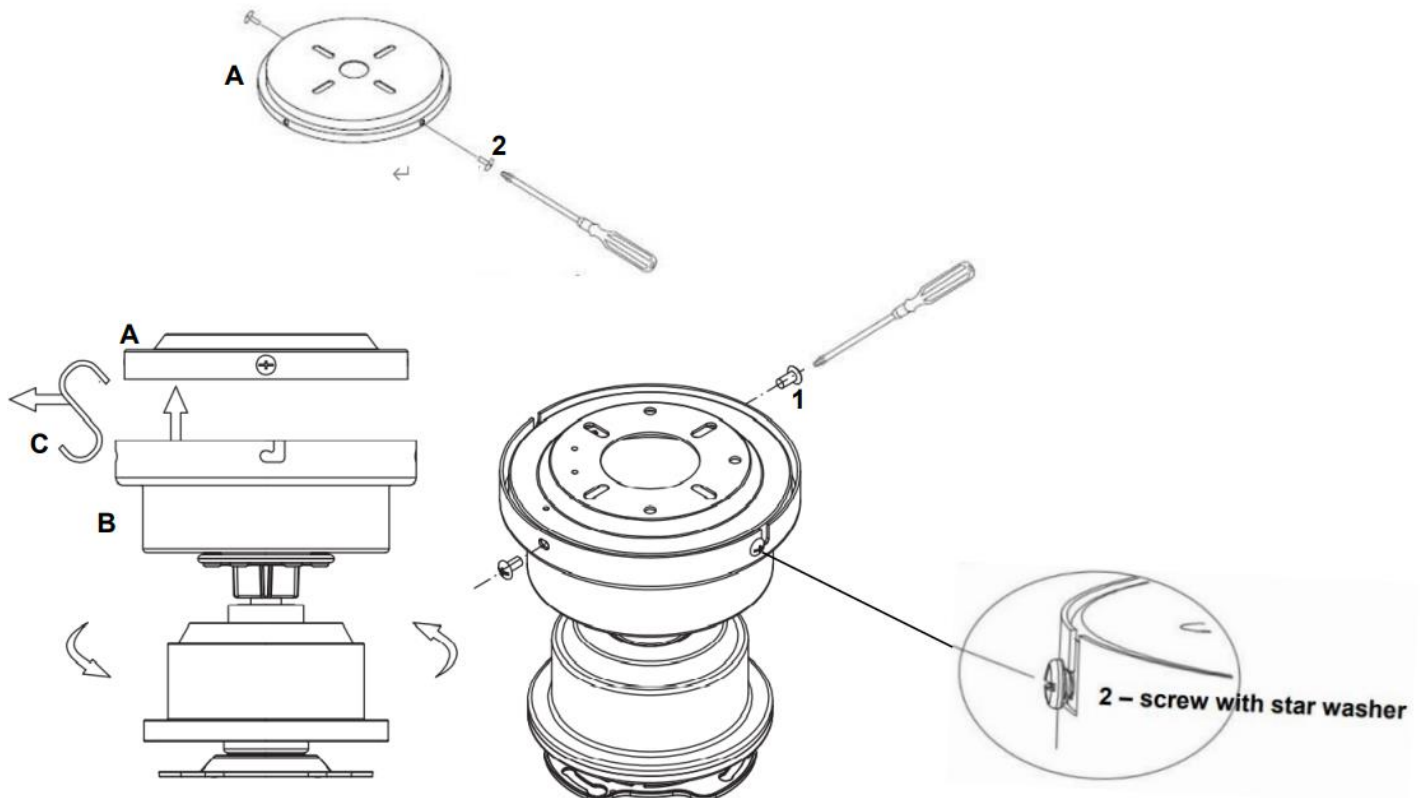

Fig. 6
Install the fan assembly to the mounting bracket (Fig.6):
- Loosen two canopy screws with star washers (2) by half a thread from the mounting bracket. (For L-shape slot on the canopy to be mounted).
- Remove the S-hook (C) from the mounting bracket and fan assembly
- Lift the hanging plate of the fan assembly (B) up to the mounting bracket and let the L-shape slot on the hanging plate go through the two canopy screws with star washers (2). (Fig.6)
- Turn the hanging plate of the fan assembly until it locks in place at the end section of the L-shape slot, ensuring the star washers are between the hanging plate and screw head. Secure it by tightening the two canopy screws with star washers (2).
- Secure and tighten the canopy screws (1) to the mounting bracket. The hanging plate of the fan assembly shall have 4 screws (1) & (2) in total. Avoid damaging the electrical wiring prepared previously when hanging the hanging plate.